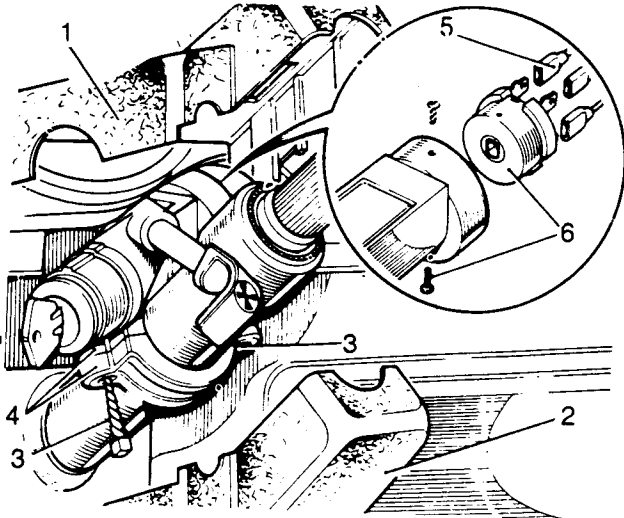

Fig L4.4
- (3) Refer to Fig L4.4. Remove the fixings and withdraw the steering column upper shroud (1).
- (4) Remove the fixings and move aside the lower shroud (2).
- (5) Centre punch and drill a hole in each sheared bolt to accept an extractor (3).
- (6) Remove the sheared bolts using a suitable 'Easy-out' extractor.
- (7) Withdraw the steering column lock and retainer saddle (4).
- (8) Disconnect the electrical leads (5) at the ignition/starter switch.
- (9) If required, remove the fixing screws (6) and withdraw the switch and the cold start control.